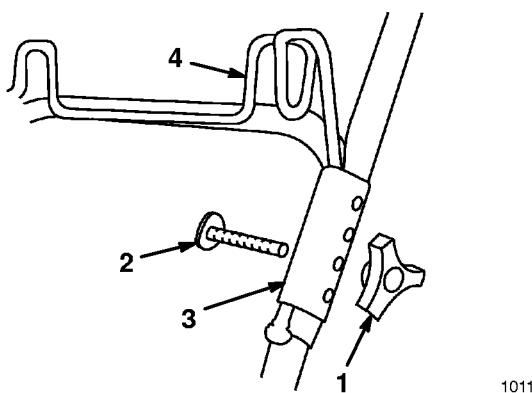

**Figure 42**
4. Close rear of bag by folding sides in and pressing interlocking rear handle halves together (Fig. 42).